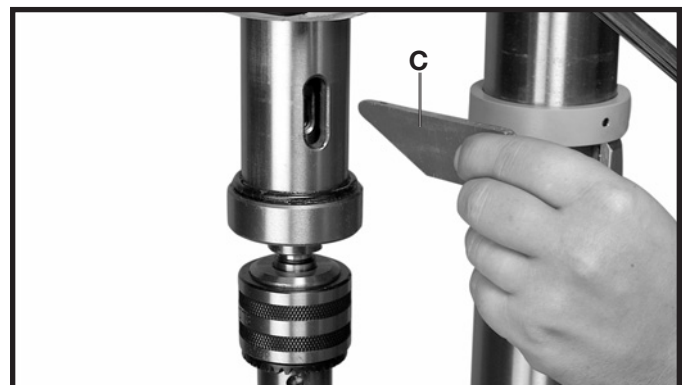

Fig. 31
2. Insert the spindle adapter remover (C) Fig. 31, through the slot in the quill and the slot in the spindle.
3. Tap the spindle adapter remover (C) Fig. 31, with a hammer until the the spindle adapter and chuck fall out from the quill.